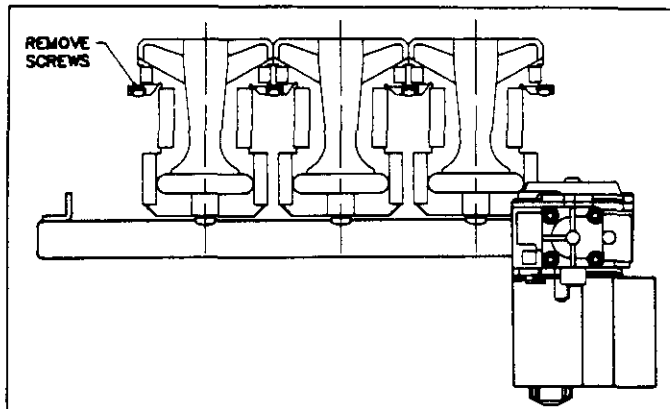

FIGURE 38
- Starting with burner farthest from gas control, remove burner screws and burners. Burners overlap. Burner farthest from gas control is on top. See Figure 38.